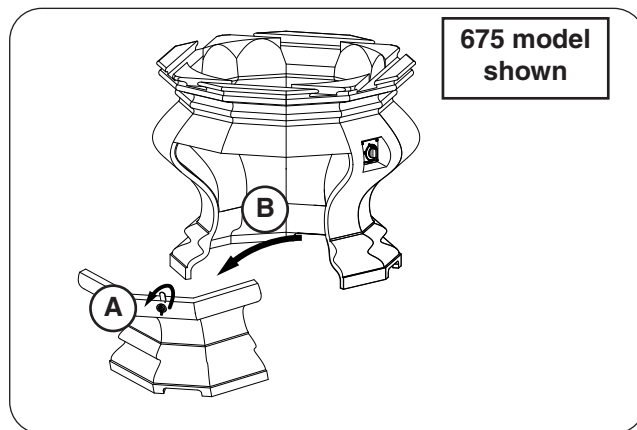

Fig. 29-1 Place base and remove door
1. **CAREFULLY** place the base in an appropriate location (see Fig. 29-1, and refer back to the LOCATION section if needed).
2. Remove the storage door by first turning the door handle counter-clockwise, then carefully pulling the door outward (see Fig. 29-1). Store in a safe location.